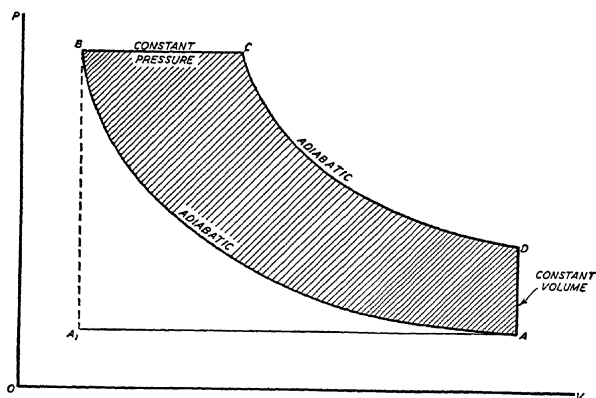

Fig. 24
The PV -diagram of the ideal Diesel cycle is given in Fig. 24. Air only is admitted to the cylinder along A_1A during the entire first stroke of the piston. It is then compressed adiabatically along the adiabatic curve, AB , during the return stroke of the piston. At point B , the end of the compression stroke, the pressure is about 500 pounds per square inch, and the corresponding temperature of about $1,000^\circ\text{F}$. is sufficiently high to ignite the fuel when it is injected into the cylinder in the form of a finely divided spray. This
- (b) the volume and temperature at point *B* (See Fig. 24)